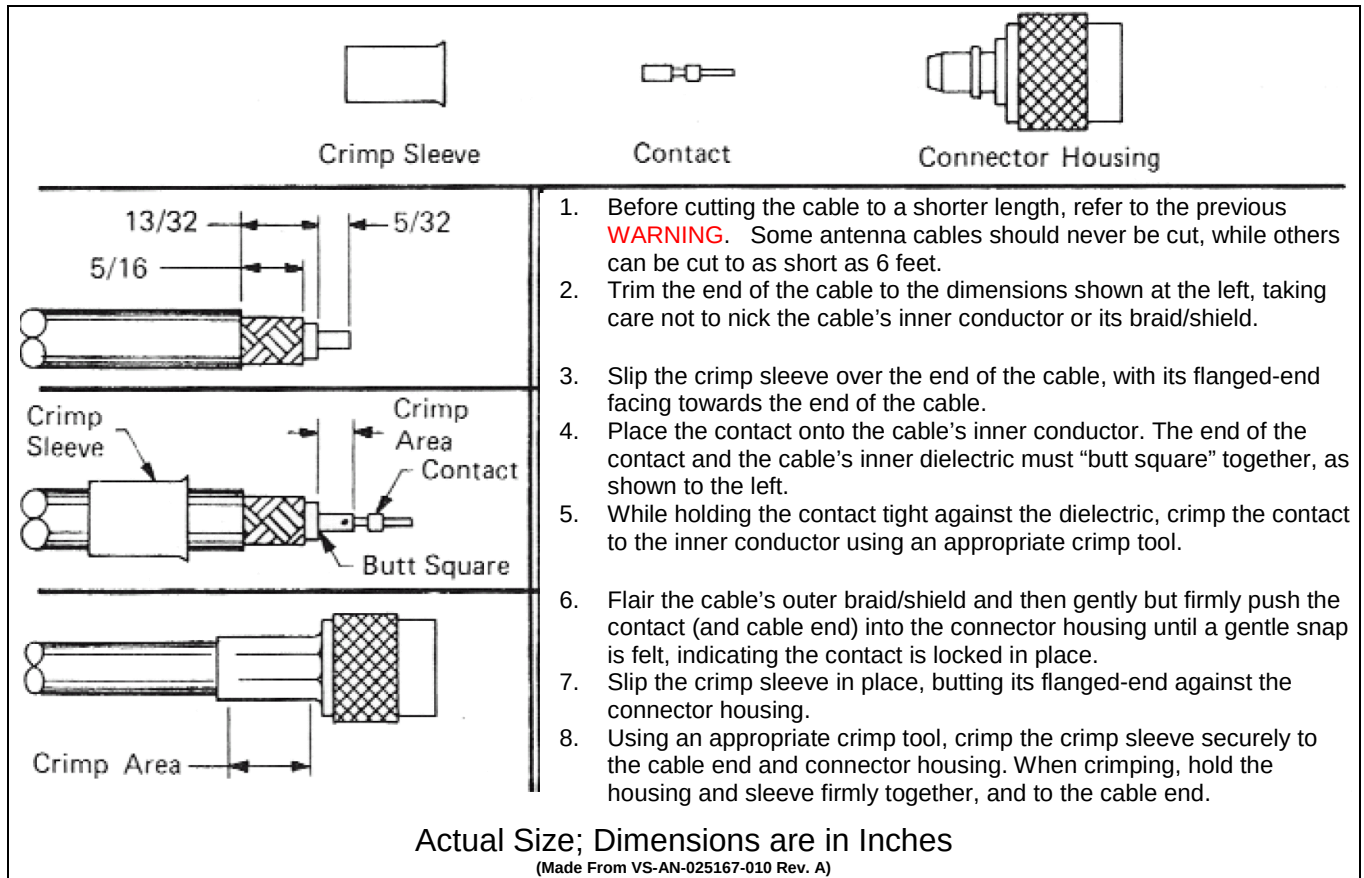

Figure 6-6: Crimping Instructions for TNC RF Connector
2. Using an appropriate crimp tool, crimp the supplied TNC RF connector to the end of the antenna cable. For crimping instructions, see Figure 6-6 or the instructions supplied with antenna mount.